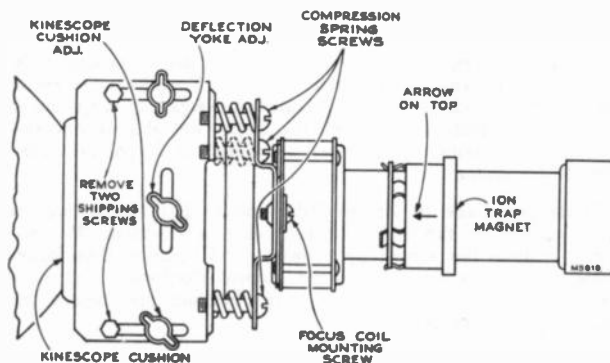

Figure 2—Yoke and Focus Coil Adjustments
**ION TRAP MAGNET ADJUSTMENT.**—Set the ion trap magnet approximately in the position shown in Figure 2. Starting from this position immediately adjust the magnet by moving it forward or backward at the same time rotating it slightly around the neck of the kinescope for the brightest raster on the screen. Reduce the brightness control setting until the raster is slightly above average brilliance. Adjust the focus control (R191 on the chassis rear apron) until the line structure of the raster is clearly visible. Readjust the ion trap magnet for maximum raster brilliance. The final touches on this adjustment should be made with the brightness control at the maxi-